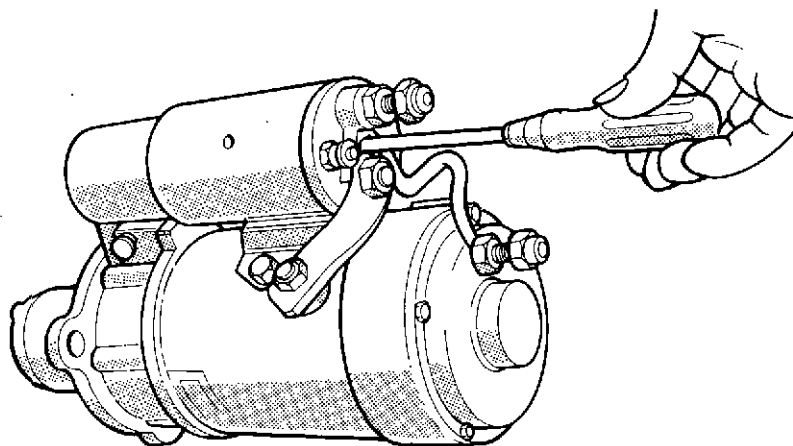

Fig. 5 Adjusting pinion clearance
- 34 If adjustment is necessary, de-energise the solenoid and using the Special Tool, Part No. 69017 (fig. 5), turn the plunger shaft until the gauge is a slide fit between the pinion and thrust washer.